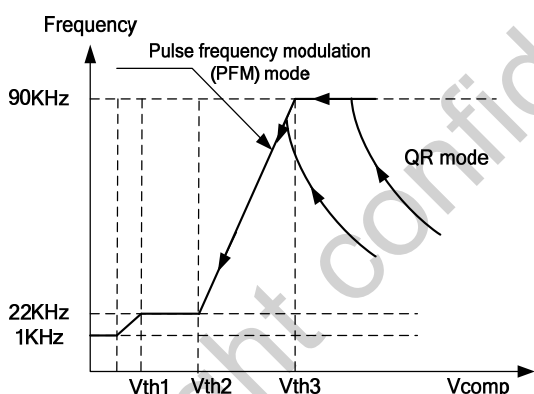

Figure 2 Multi-mode operation diagram
OB2570x is an excellent integrated multi-mode (see Figure 2) PWM controller optimized for off-line middle power AC/DC applications. It operates in quasi-resonant mode (QR) to provide high efficiency with primary side sensing and regulation thus provides cost effective solution for energy efficient power supplies.